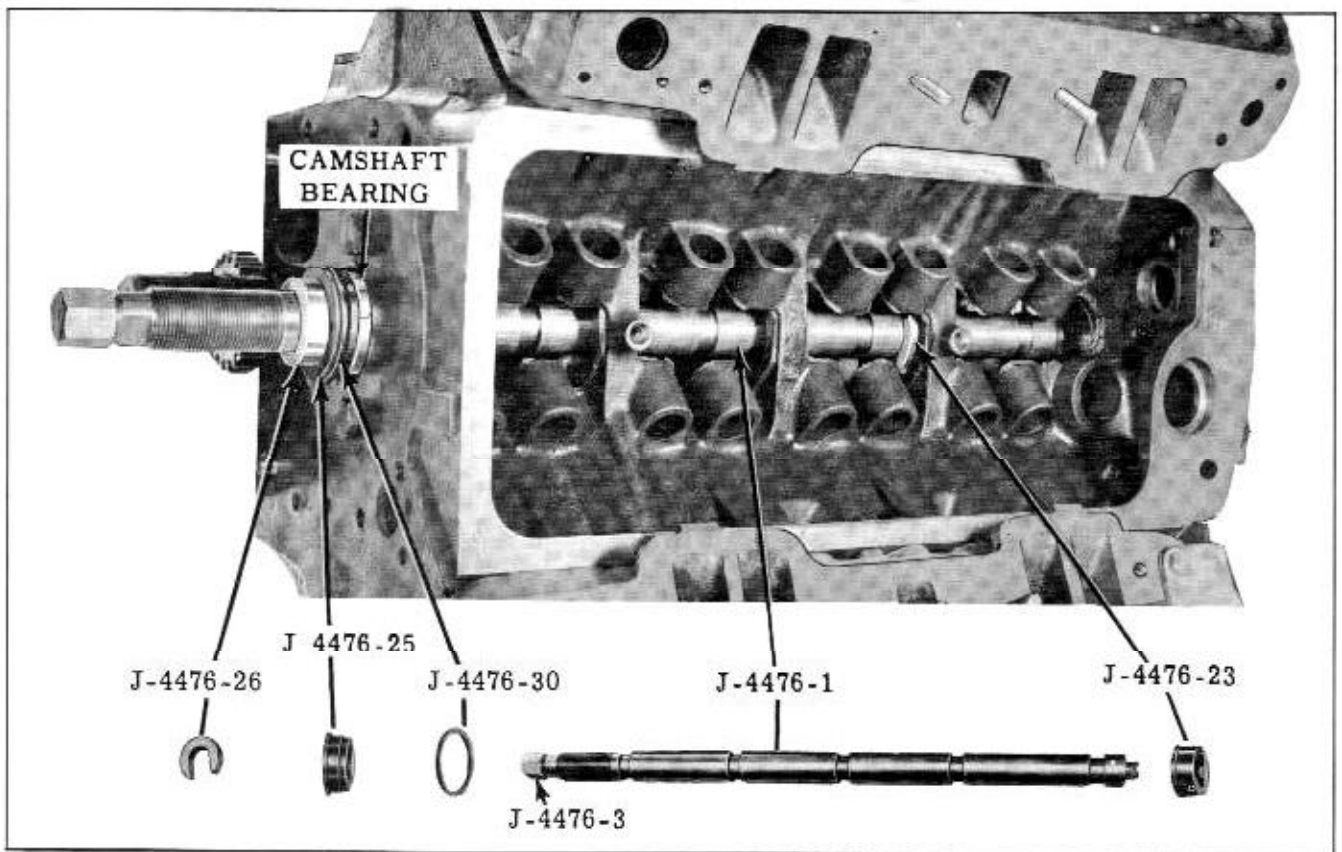

Fig. 8-47 Installing No. 1 Camshaft Bearing
- Assemble tools as shown in Fig. 8-47.